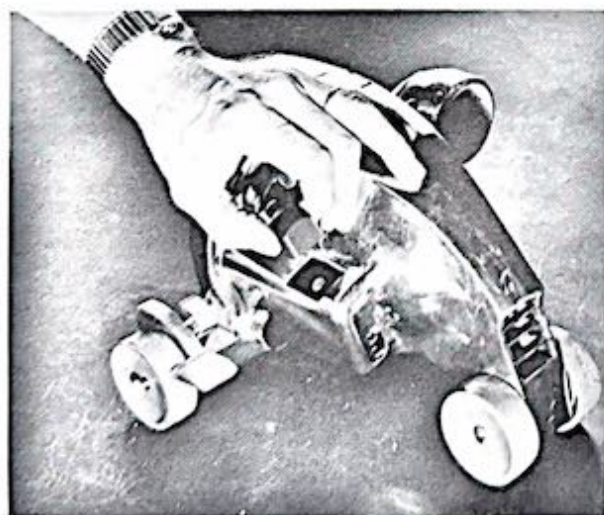

Figure 1-36. Removing foot switch button
(1) Remove the foot switch button (32, fig. 1-3) by lifting up as shown in figure 1-36.